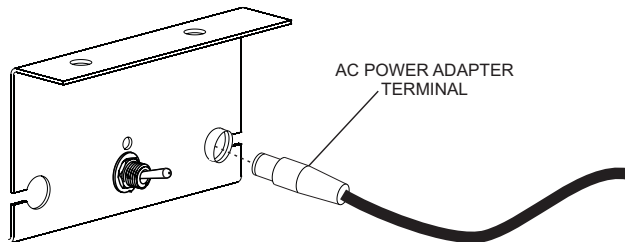

Figure 29
13. Plug power adaptor into plug in junction box on right of fireplace. Connect other end of power adaptor terminal into its receiver on the right of the burner assembly. **See Figure 29.**